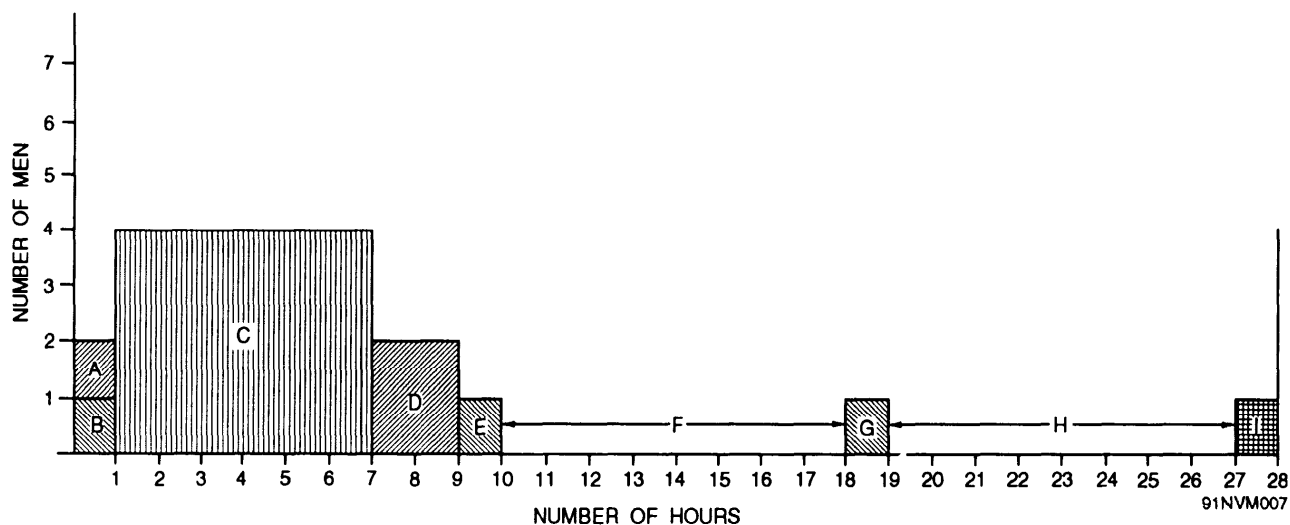

Figure 2-2.—Estimating time required for a gangway repair job.
6. Next, try to estimate the time that will be required for the work itself. Perhaps the best way to do this is to divide the total job into its various phases or steps that will have to be done. The time required for each step depends partly on the nature of the job and partly on the number of personnel available. You may find it helpful to draw a diagram or chart showing how many persons can be assigned to each step of the job, and how long each step is likely to take. Figure 2-2 shows a chart made up to estimate the total time required to make certain repairs to a gangway.
Notice that, although there are four people available to work on this job, it is not possible for all four to be working on it at all times. Most of the work must be done in sequence; for example, you can't finish the surface before you have renewed the stringer and treads, and you can't make the new stringer and treads before you have made the template. Step A (obtaining the metal fittings) could be performed at any convenient time before step I (putting on the metal fittings). The advantage of using a diagram such as the one shown in figure 2-2 is that it shows at a glance the total number of hours that must be allowed for the work-in this case, 28 hours.